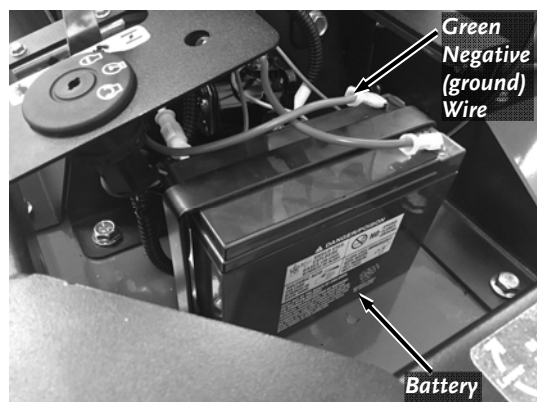

Figure 9
- Push the negative Wire Connector fully onto the negative terminal of the Battery (**Figure 9**).